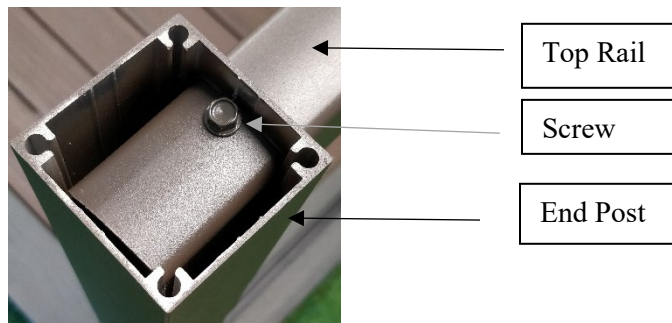

Figure 2 Screw location for top rail and end post
10. Use the impact driver to fasten in a 12x3/4 screw as close to the inside edge of the post as possible, as shown in Figure 2.